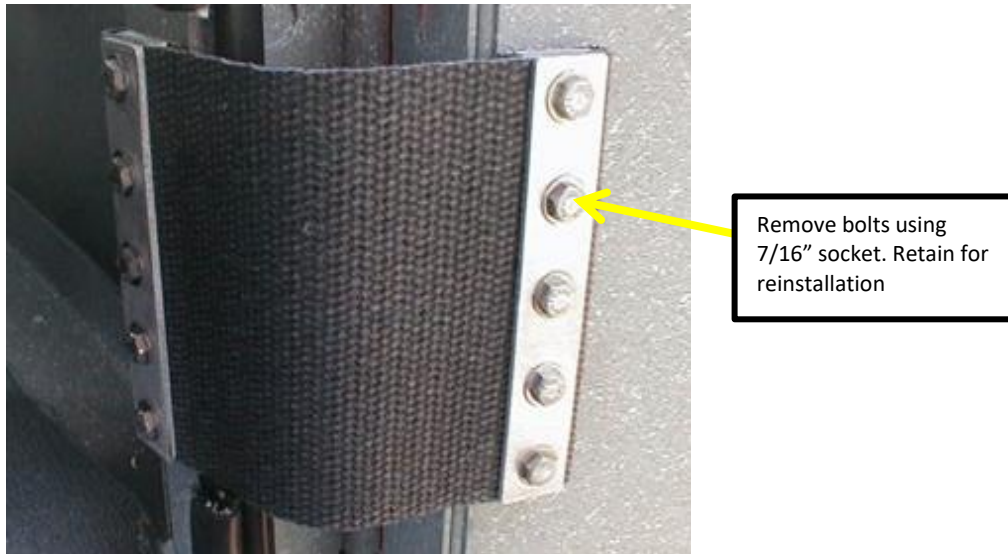

FIG 6-1
1. Remove door check strap from door. Take care not to allow the door to swing open and hit / damage side of cab. Refer to FIG. 6-1.